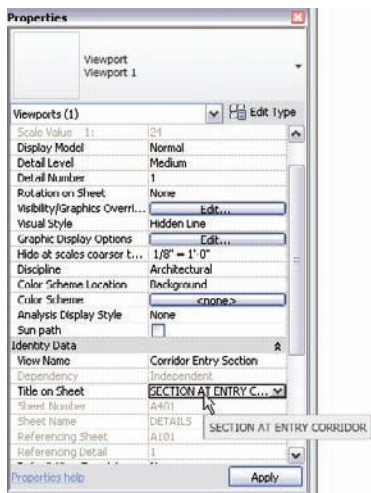

FIGURE 14.16 You can make the title on the sheet different from the view name.
3. In the Properties dialog, scroll down the list until you arrive at the Title On Sheet, as shown in Figure 14.16.